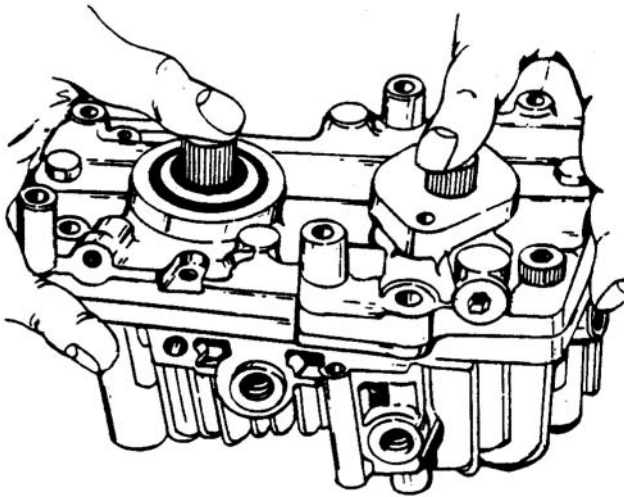

Figure 6-13. Removal of Center Section
- b. Lift the center section off the transmission. Take care not to damage the surface of the center section and cylinder blocks. See Figure 6-13.